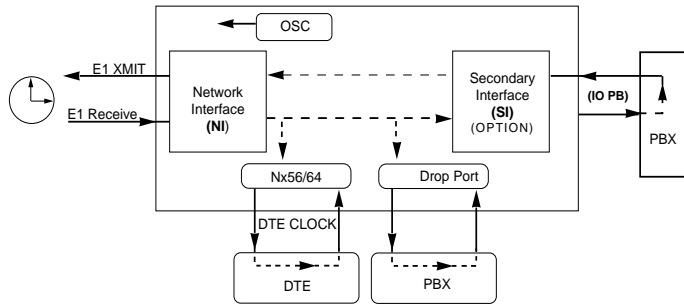

Figure 5-6. Normal (CSU) Timing
The typical timing option arrangement is shown in Figure 5-6 on page 62. The PBX is loop-timed, sending data to the ESU 120e which is actually synchronous to the received data. The Network Interface (NI) is the actual source of all timings. This timing option is the same as that typically used for CSUs. This is the preferred mode for use with a PBX application.